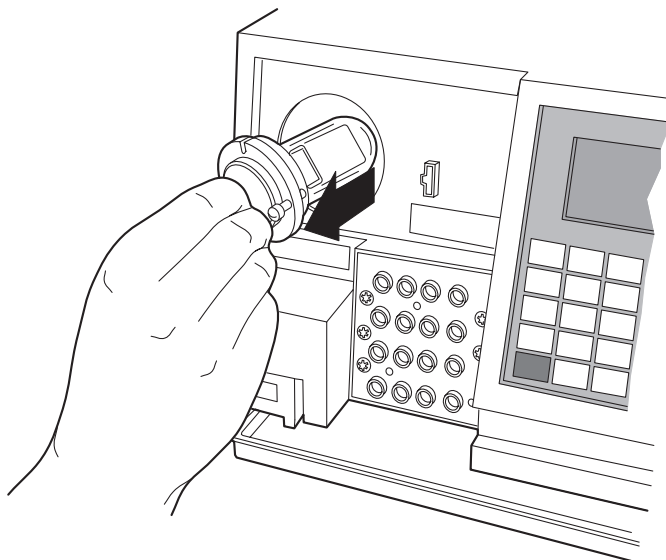

Figure 4-14 Removing the Lamp
6. Gently pull the lamp assembly out of the lamp housing (Figure 4-14).
1. Unpack the lamp from its packing material. The new lamp may vary slightly from the lamp in Figure 4-14.